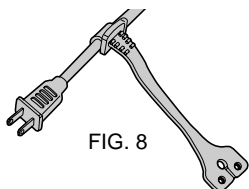

FIG. 8
2. Slip loop over electric plug and draw loop tight around cord (Figure 8.)